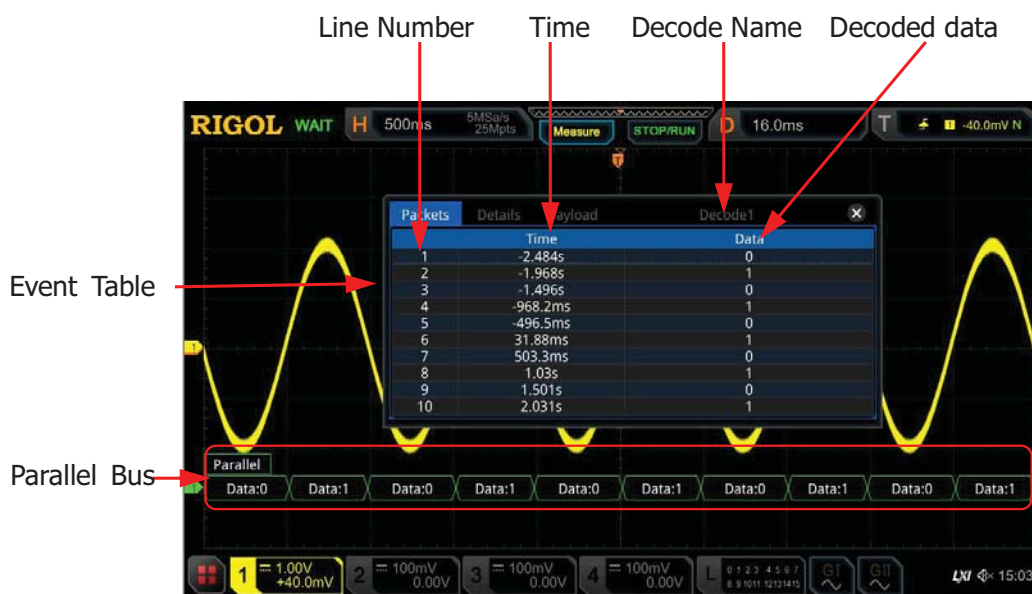

Figure 11-2 Parallel Decoding Event Table
- Open or close the event table: Press **Event Table** continuously to enable or disable the event table. When you enable the event table, the following figure is displayed, as shown in Figure 11-2. You can also enable the touch screen to tap the icon  at the upper-right corner of the table to close the event table. Besides, you can also rotate the multifunction knob  to select a specified line and view the corresponding decoding information.